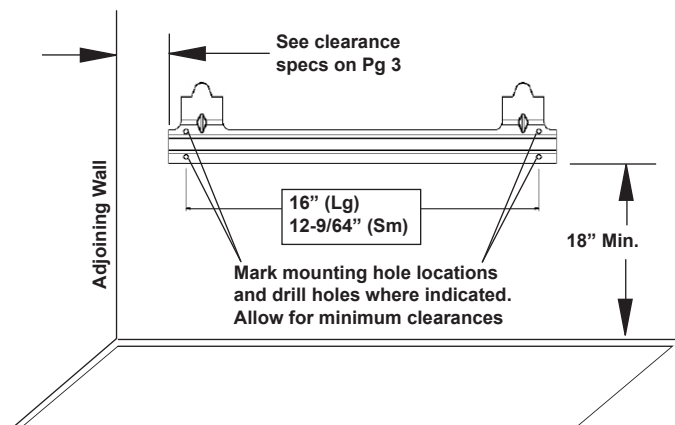

Figure 7
⚠ WARNING: Maintain minimum clearances shown in figure 7. If you can, provide greater clearances from the floor and joining wall.
2. Mark screw locations on wall (see figure 7).